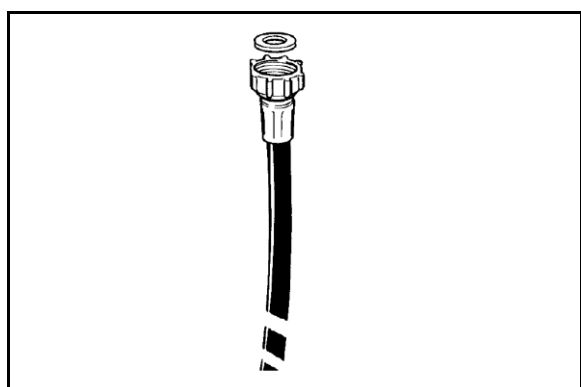

Fig. 15
- Insert the special sealing gaskets in the two threaded ring nuts of the water inlet hose found in the appliance kit (Fig. 15).